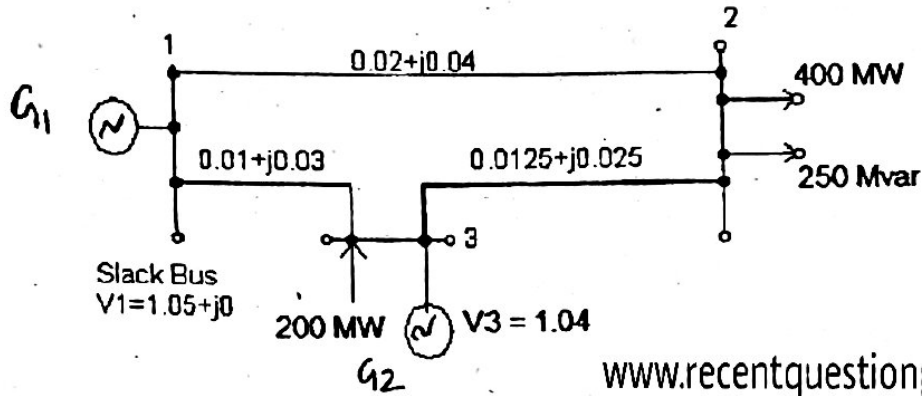

Fig. 12(b)
- (b) The Fig. 12(b) shows the one line diagram of a simple 3 bus power system with generators at buses 1 and 3. Line impedances are marked in p.u on a 100 MVA base. Determine the bus voltages at the end of second iteration using Gauss – Seidel method. (16)